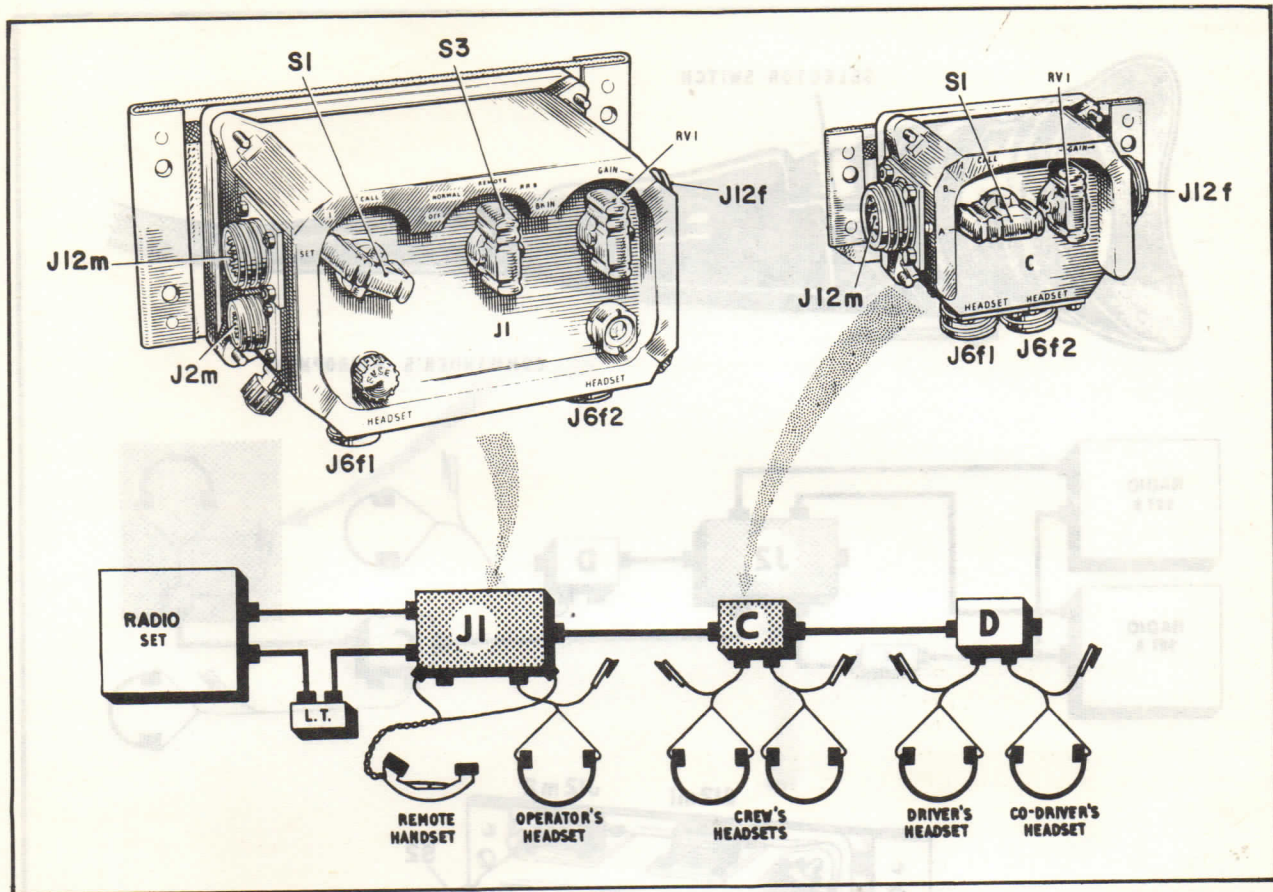

FIG 25 ONE SET STATION WITH REMOTE HANDSET
(1) Switch the harness on by turning switch S3 on box J1 to NORM. Turn on the IC amplifier as detailed in the Operating Instructions.
(2) Referring to Fig 25, turn switch S1 on junction box J1 to I. Turn switches S1 on operator's control unit C and driver's control unit D to I. Intercommunication is now possible between operators at units C, D and J1, but the remote control cable terminals are disconnected.
(3) If the remote handset is to be included in the IC conversation, turn switch S3 on box J1 to REM.
(4) To call operators on the harness, including the remote operator, turn switch S1 on units C, D or J1 to CALL, then let it return to I.
(5) To call operators on the harness from the remote point, press the CALL button on the remote control handset.
(1) Switch the harness on by turning switch S3 on box J1 to NORM. Tune the radio set as detailed in the Operating Instructions.
(2) Referring to Fig 25, turn switch S1 on
(1) Tune the radio set as detailed in the Operating Instructions.
(2) Referring to Fig 25, switch S1 on junction box J1 to SET, and turn switch S3 to REM. On the operator's control unit C, turn switch S1 to position B.
(3) The remote control handset incorporates a transmit-receive pressel switch. This handset is connected directly to the radio set, which is now controlled from the remote position.
(4) Operators at units C and J1 can listen to the traffic from the remote handset. If they wish to speak they can break in by pressing their pressel switches.